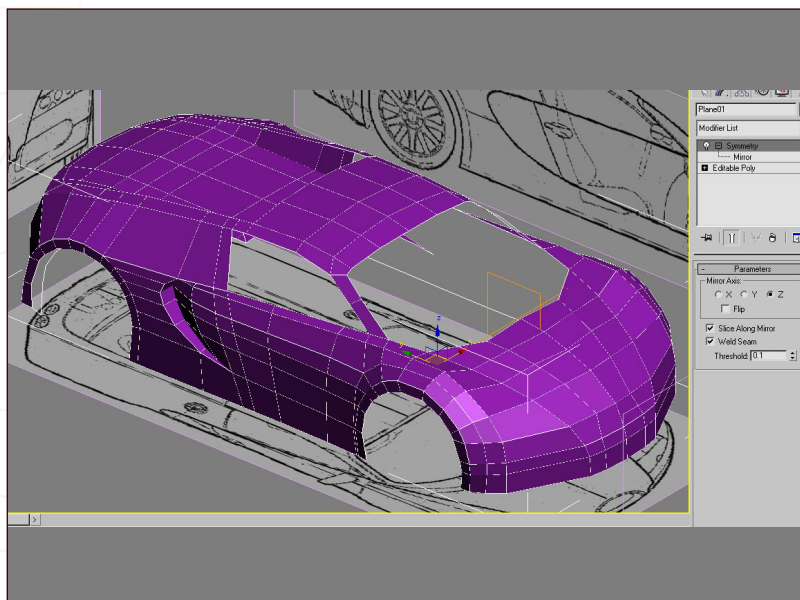

Fig 29
18. Make sure all the vertices you have are merged. Sometimes, when extruding a lot, you might forget a few “loose” vertices. It's okay also to keep modifying any of the vertices' positions throughout all the stages of the process (**Fig29**).
You should have, by now, the overall mesh, similar to this one (**Fig29**). If you have different ways to make the edge loops, or anything else different, then please feel free to experiment with it. In the next part we will take the simple mesh that we have just created, and we'll start adding more edge loops and almost finish the basic body work model. Whilst the mesh we have now might appear simple, it actually contains all of the bases that we need to add the details, which should be a lot easier now.